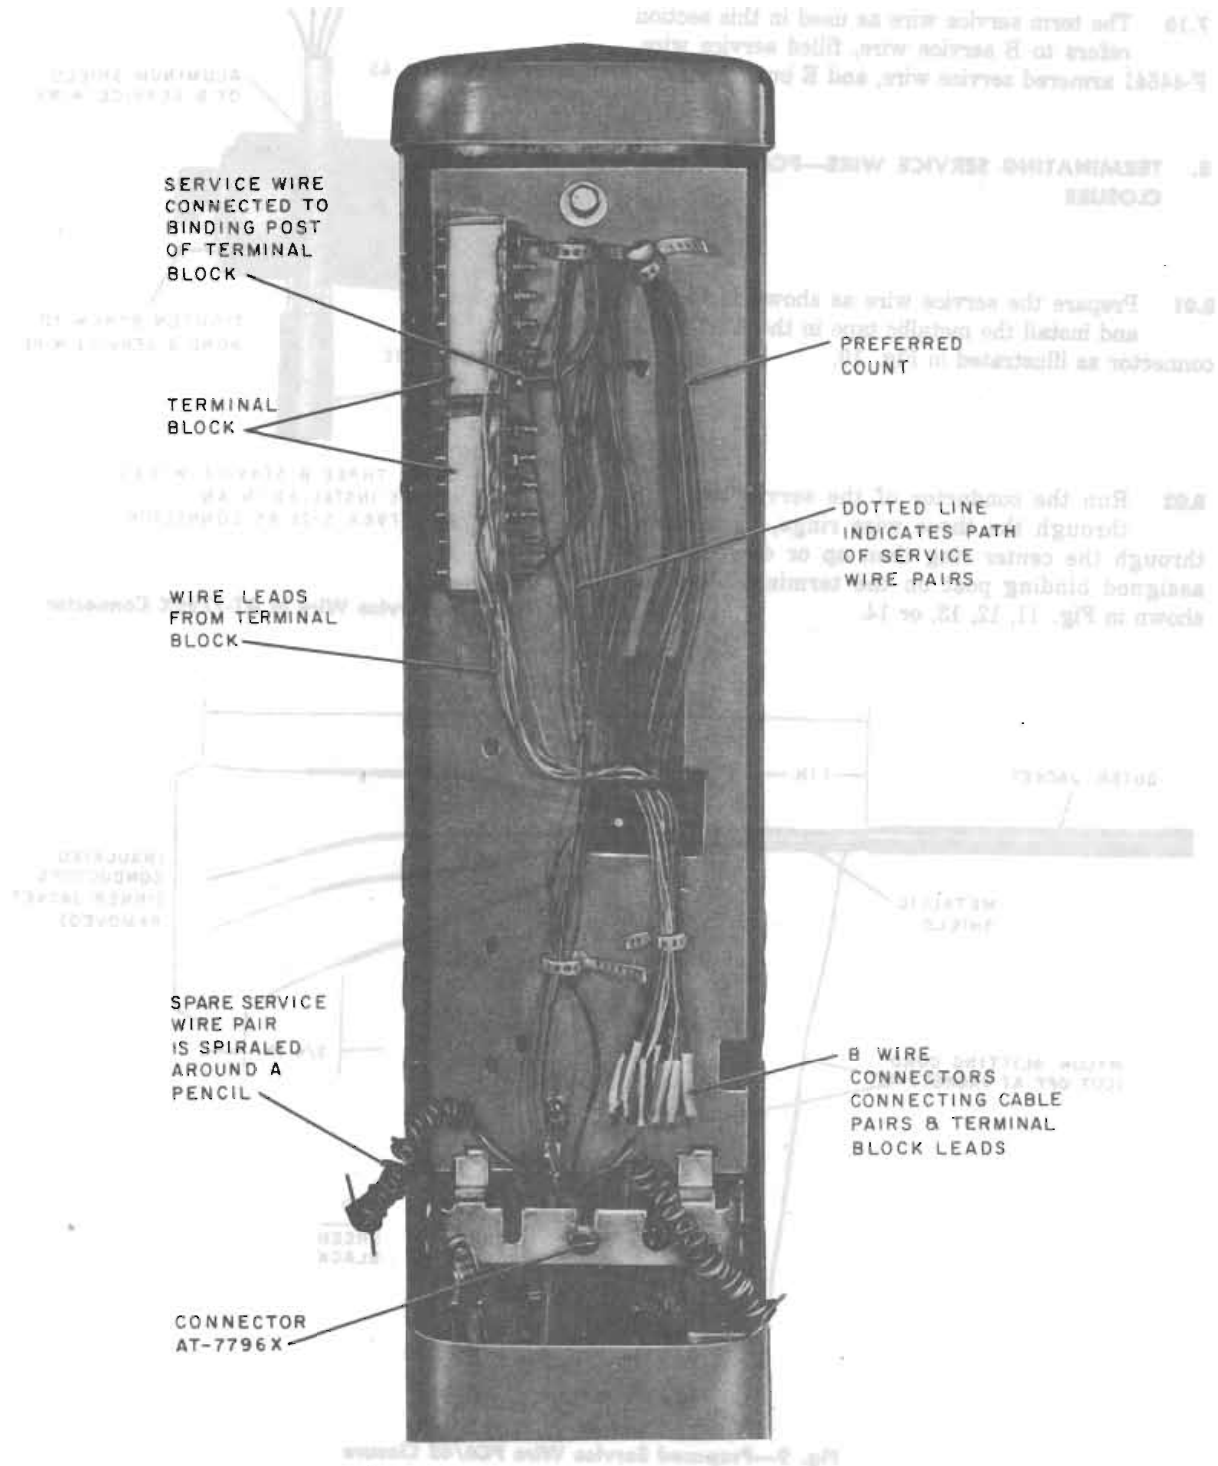

Fig. 11—Service Wire Installed
8.02 Run the conductor of the service wire up through the three wire rings, back down through the center ring then up or down to the assigned binding post on the terminal block as shown in Fig. 11, 12, 13, or 14.